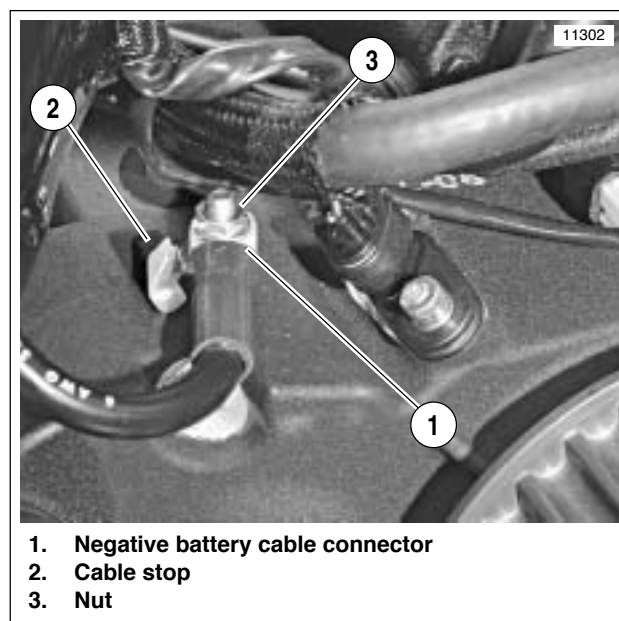

Figure 1-20. Attaching Negative (-) Battery Cable to Ground Stud Crankcase
11. Place negative (-) battery cable connector onto ground stud (5) on crankcase boss behind starter motor assembly (3). Thread nut (2) onto stud.
12. See Figure 1-20. Press negative (-) battery cable connector (1) against cable stop (2) on crankcase and tighten nut (3) to 55-75 **in-lbs** (6.2-8.5 Nm).